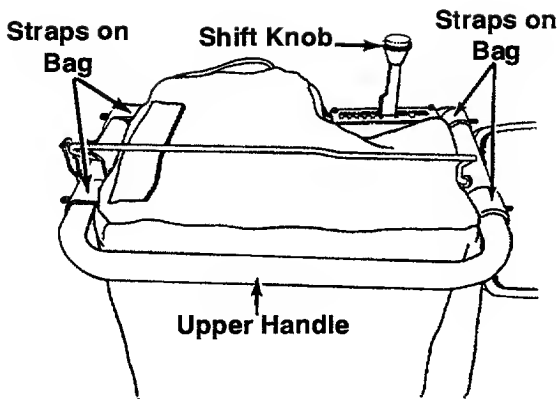

Figure 7
2. Place the four straps on the top of the bag over upper handle, hooking them on studs. See Figure 7. Be sure the bag goes **under** the drive clutch handle.